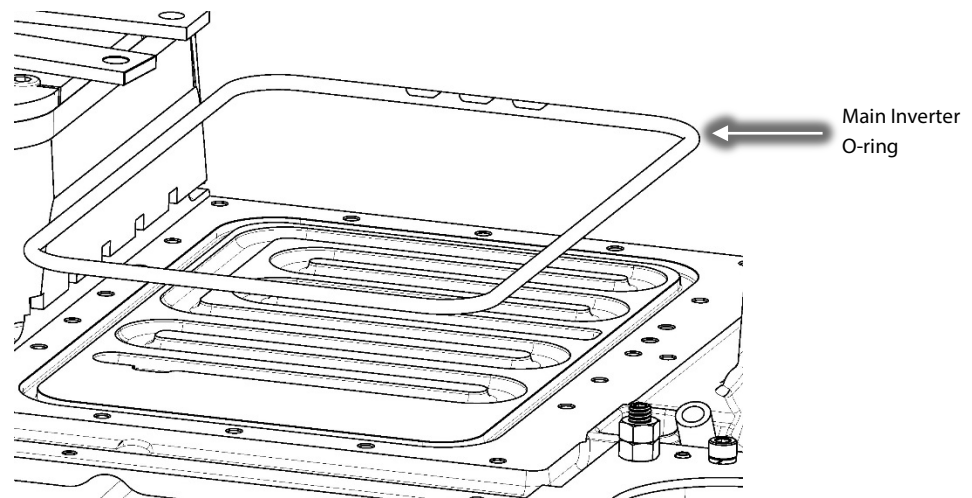

Figure 20 – Inverter O-ring Removal
29. Remove and discard the large Inverter O-ring from the compressor housing. (Refer to Figure 20 (Inverter O-ring Removal)).